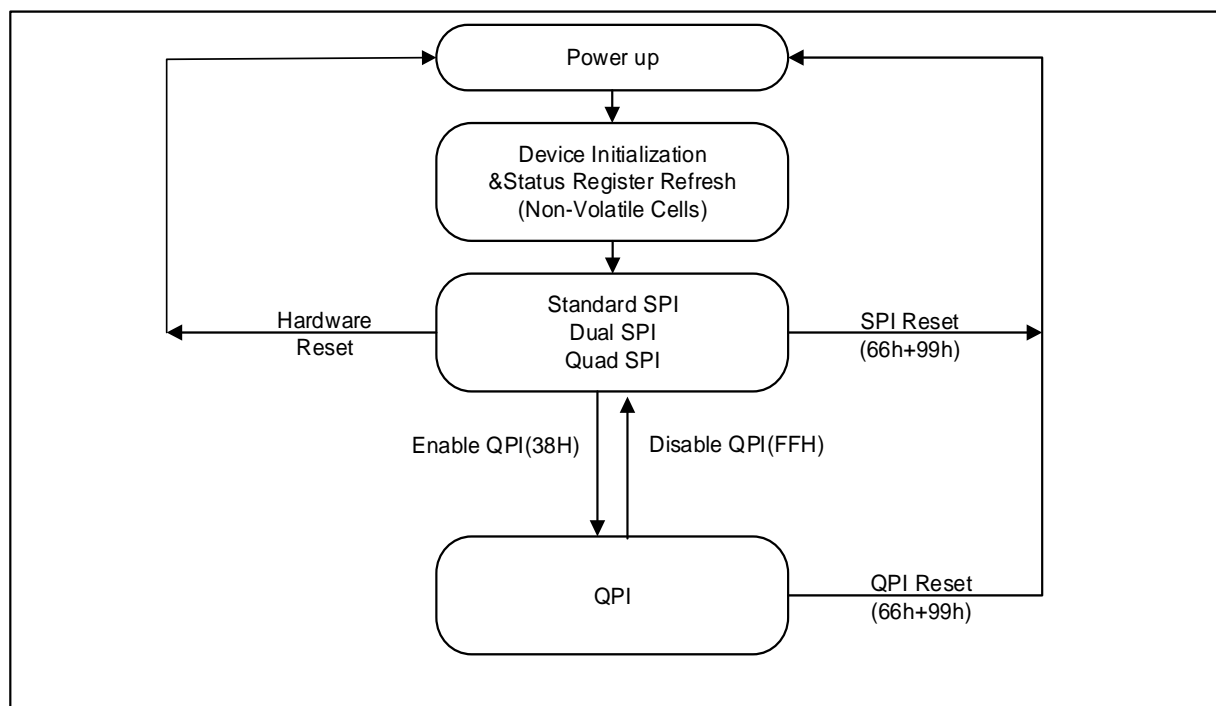

Figure 3. XM25QU64C Serial Flash Memory Operation Diagram
The XM25QU64C supports Quad Peripheral Interface (QPI) operations only when the device is switched from Standard/Dual/Quad SPI mode to QPI mode using the “Enter QPI (38h)” instruction. The typical SPI protocol requires that the byte-long instruction code being shifted into the device only via DI pin in eight serial clocks. The QPI mode utilizes all four IO pins to input the instruction code, thus only two serial clocks are required. This can significantly reduce the SPI instruction overhead and improve system performance in an XIP environment. Standard/Dual/Quad SPI mode and QPI mode are exclusive. Only one mode can be active at any given time. “Enter QPI (38h)” and “Exit QPI (FFh)” instructions are used to switch between these two modes. Upon power-up or after a software reset using “Reset (99h)” instruction, the default state of the device is Standard/Dual/Quad SPI mode. To enable QPI mode, the non-volatile Quad Enable bit (QE) in Status Register-2 is required to be set. When using QPI instructions, the DI and DO pins become bidirectional IO0 and IO1, and the /WP and /HOLD pins become IO2 and IO3 respectively. See Figure 3 for the device operation modes.